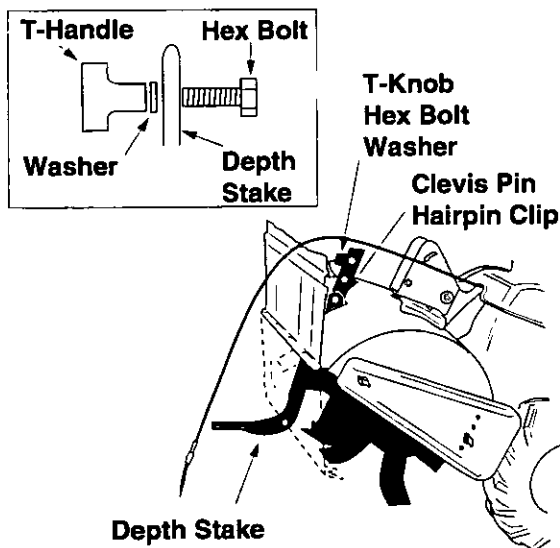

Figure 3
2. Raise the tine shield hinge flap assembly. Insert the depth stake assembly between the two shoulder bolts (under the tine shield) and up through the tine shield assembly as shown in Figure 3.
4. Insert hex bolt into the top hole of the depth stake assembly. Place flat washer onto the hex bolt and thread "T" knob onto the hex bolt. See Figure 3. Tighten securely.